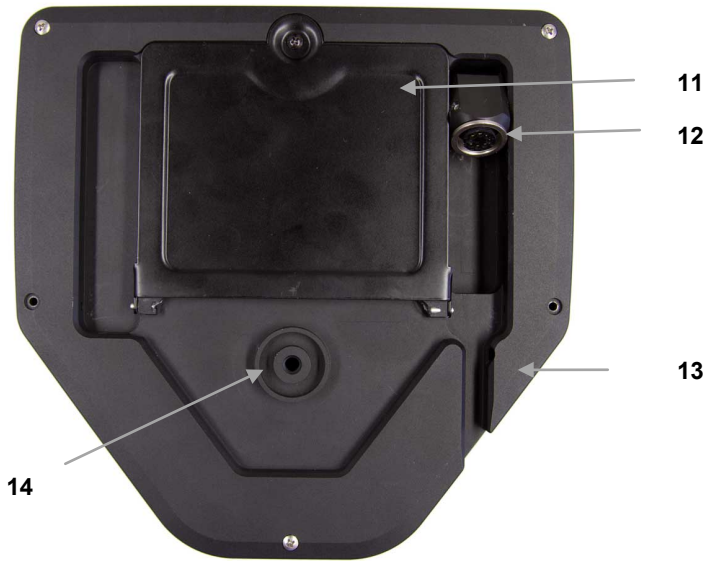

Fig. 2: Monitor - rear view
- Flip up the eight-pole female connector located on the rear of the monitor (Fig 2, part 12).